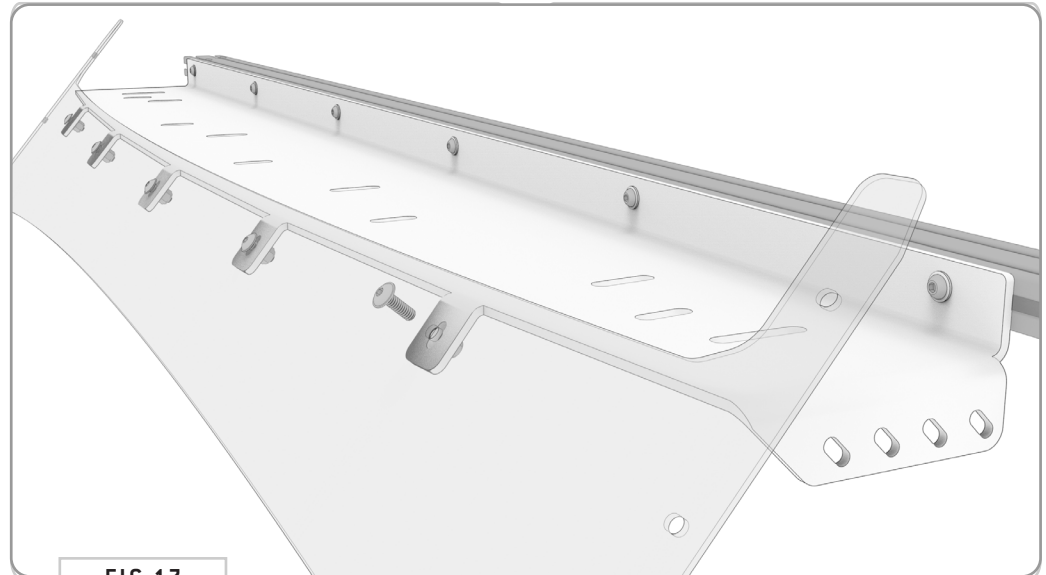

FIG 17
5.3 Attach Front Fairing: Attach the **Front Fairing** to the Assembly using **1/4-20 x 0.75 Flanged Button Head Screws, Flat Washers and Nylon Locknuts (FIG 17+18).**